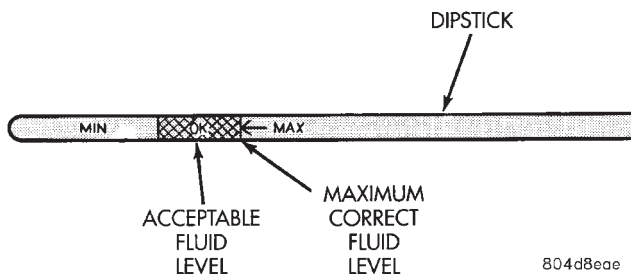

Fig. 10 Dipstick Fluid Level Marks—Typical
- (1) Transmission fluid must be at normal operating temperature for accurate fluid level check. Drive vehicle if necessary to bring fluid temperature up to normal hot operating temperature of 82°C (180°F).
- (2) Position vehicle on level surface.
- (3) Start and run engine at curb idle speed.
- (4) Apply parking brakes.
- (5) Shift transmission momentarily into all gear ranges. Then shift transmission back to Neutral.
- (6) Clean top of filler tube and dipstick to keep dirt from entering tube.
- (7) Remove dipstick (Fig. 10) and check fluid level as follows: